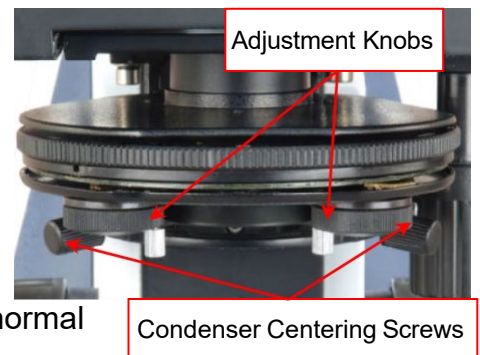

Fig.18
- Turn the condenser centering screws (**Fig. 18**) to move the dark spot to the center until two ring images are coincided, or
- Turn the adjustment knobs (**Fig. 18**) to move the dark spot to the center until two ring images are coincided.